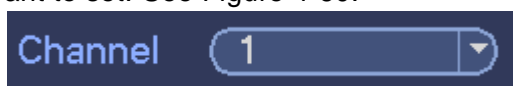

Figure 4-60
- Select a channel you want to set. See Figure 4-60.